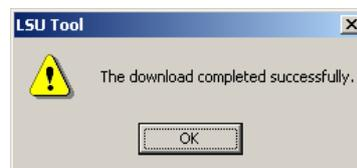

Figure 170: Successful Firmware Upgrade
3. If the upgrade is successful, the following window appears (Figure 170).